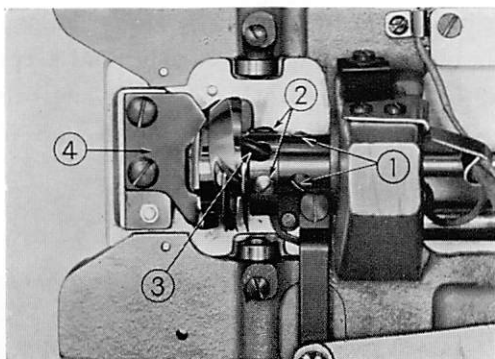

Fig. 18
To adjust the timing of the hook, loosen the set screw (Fig. 18 ①). To remove the sewing hook, loosen the set screws (Fig. 18 ②) and take them out. To replace the sewing hook, time the tip of the oiling tube ③ of the hook sleeve with that of the hole of the oil reservoir and install the hook back. In doing so, the bobbin case stop ④ must also be removed but to replace it, be sure to adjust the right and left installing positions of the bobbin case stop so that the thread will easily pass through the space of the corner between the bobbin case stop.